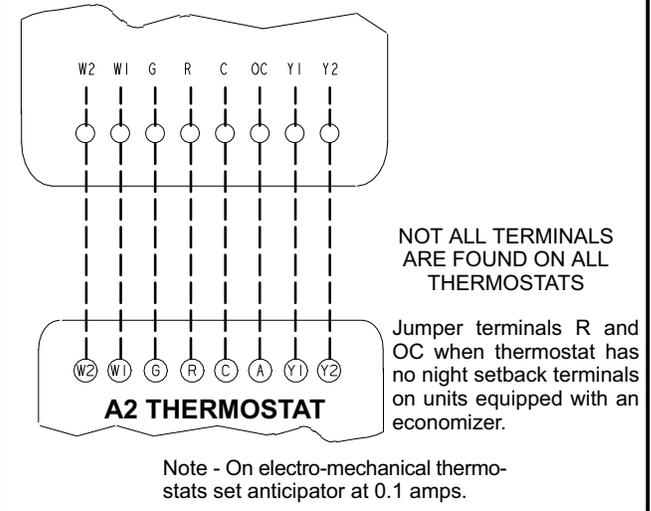

FIGURE 8
- 3- Connect thermostat wiring to TB1 terminal board on the left side of the controls area. Wire as shown in figure 8 for electro-mechanical and electronic thermostats. If using other temperature control devices or energy management systems see instructions and wiring diagram provided by manufacturer.